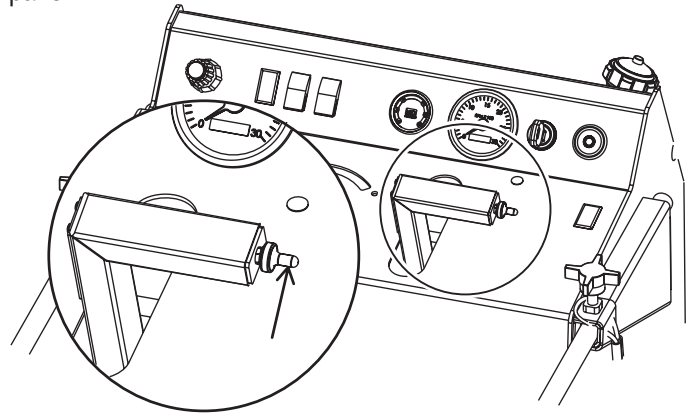

Figure 27. Raise-Lower Control Toggle Switch
- To Lower the blade, push the toggle switch located on the end of the Control Handle FORWARD, (Figure 27).